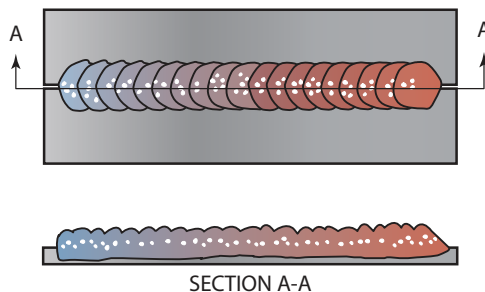

FIGURE 30-3 Linear porosity.
- Linear porosity is most frequently caused by contamination within the joint, root, or interbead boundaries, Figure 30-3.